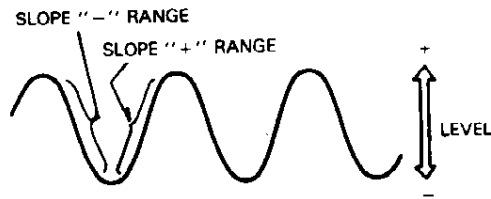

Fig. 8
Trigger point on waveform is adjusted by the LEVEL/PUSH SLOPE ②⑥ control. Fig. 8 shows the relationship between the SLDPE and LEVEL of the trigger point. Triggering level can be adjusted as necessary.